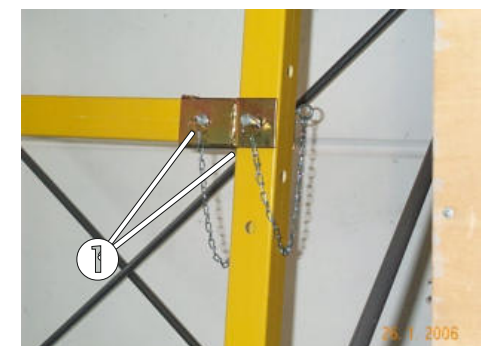

Fig. 53: Correct alignment of locking pins
Make sure that the locking pins are aligned correctly and the chains fall correctly (fig. 53/pos. 1).